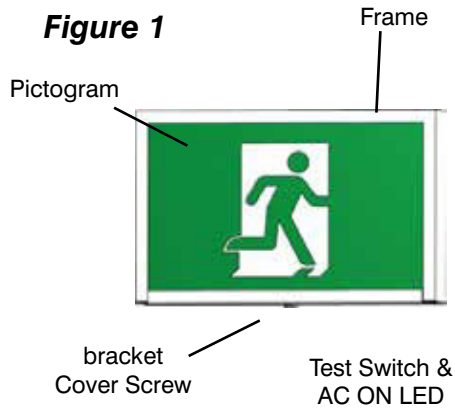

Figure 3
3. On the top and both sides of the sign there are three (3) holes for the canopy - two (2) for the mounting screws and one (1) wire pass-thru hole. Knock out the three appropriate canopy mounting holes for your installation (Figure 3).
4. Secure the canopy to the sign using the supplied 1 inch screws and washer nuts and the snap the wire pass-thru hole plastic bushing into the wire pass-thru hole in the centre of the canopy (Figure 3).